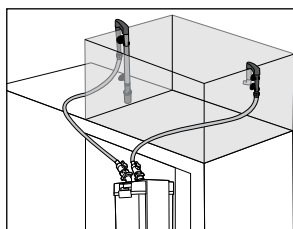
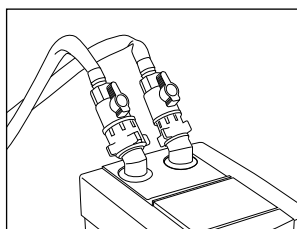

fig 7
fig 20
- Cut the flexible tubes to the length required to ensure the water runs through as straight as possible, so as to prevent possible (fig. 7) obstruction of the flexible tubes (fig. 20).